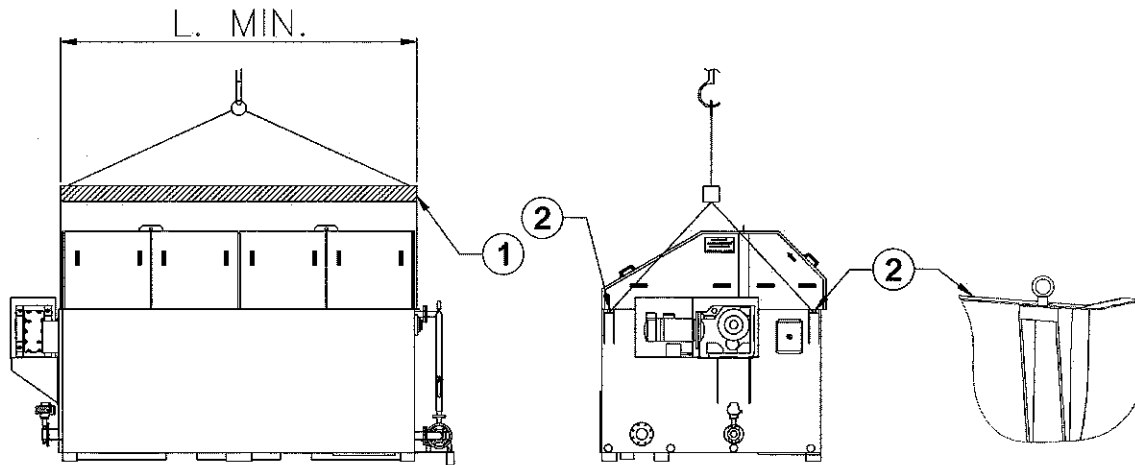

Figure 1– Lifting ULTRASCREEN® Disk Filter
- Affix 24mm stainless steel eyebolts (with anti-seize compound) to the casing (Figure 1, Item 2), and adequately tighten them